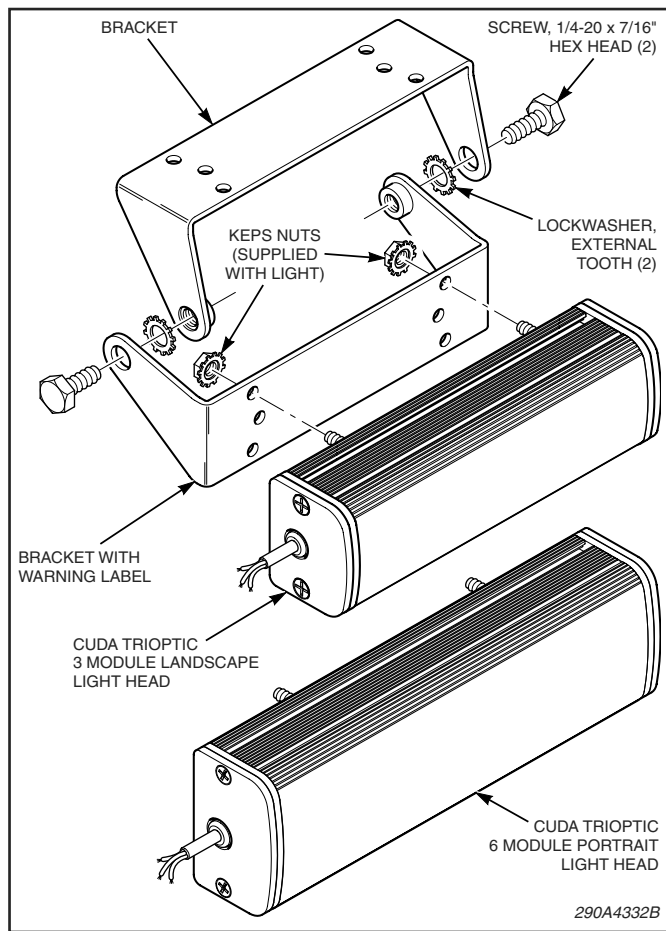

Figure 1.
3. See figure 1. Three sets of mounting holes are provided on the bracket to accommodate various mounting configurations. Attach the bracket to the selected channel using the previously installed screws and the two keps nuts (supplied with the light head).